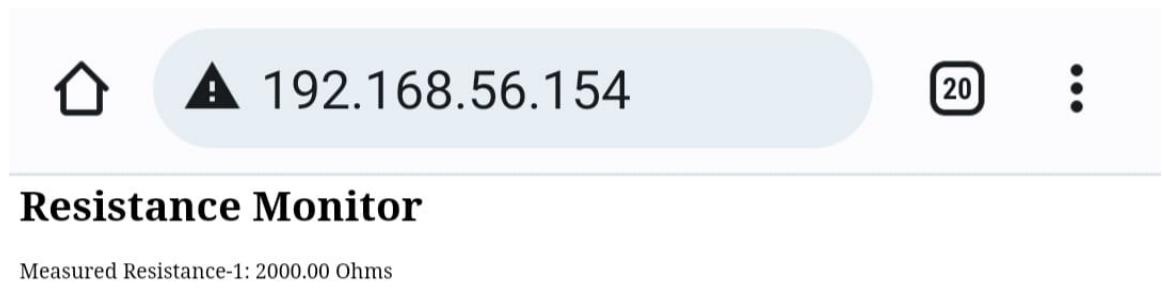

Figure 8.1: Website
1.4.8. In the website loaded by the IP address of Vaman-ESP32 the two unknown resistances are displayed as shown in Fig. 8.1.